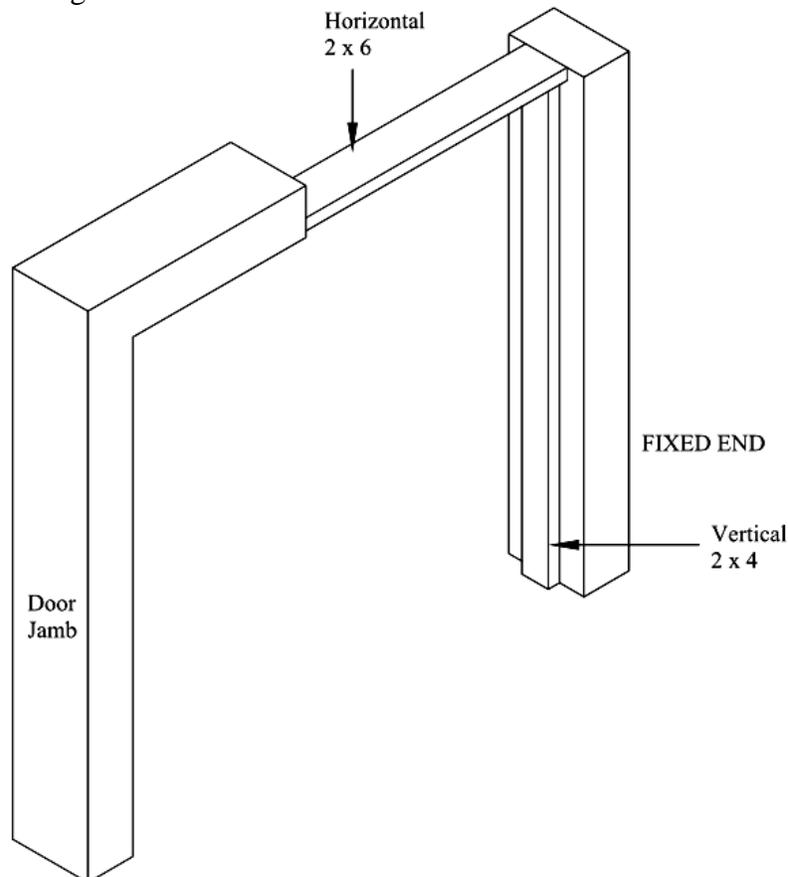

FIGURE 1
2. Install the lumber in the doorway. There are two 2 pieces of lumber supplied. One (2 x 6) is equal to the door width. Mount it horizontally, centered under the doorway lintel. The other (2 x 4) is the length of the door height less 1 1/2" and it mounts vertically on the side of the jamb, which will be the fixed end of the curtain. Make sure the vertical 2 x 4 is mounted centered with the horizontal 2 x 6. (See Fig. 1).